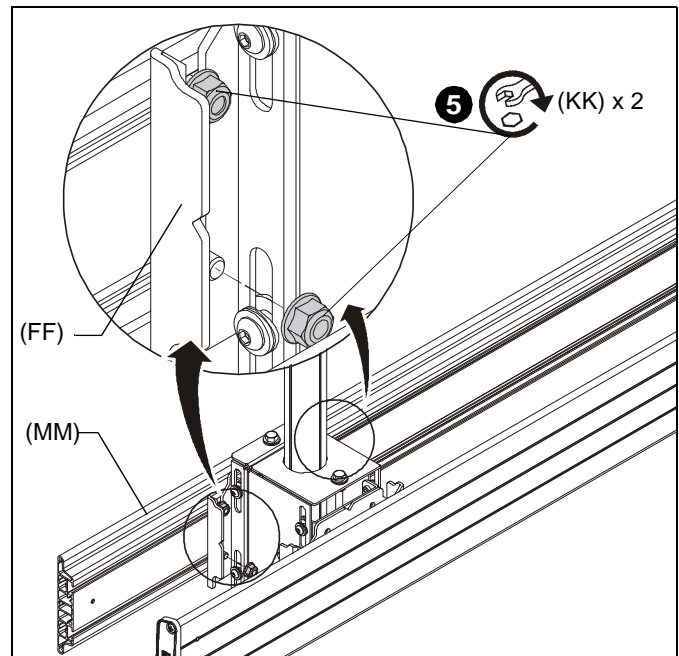

Figure 11
2. Partially fasten one 5/16" lock nut (KK) to each stud on upper T-slot studs.
3. Slide top T-slot studs (EE) with attached lock nuts (KK) down into top openings on add-on heads (FF). (See Figure 11)
4. Slide studs on lower T-slot studs (EE) into lower slots on add-on heads (FF) while bringing mounting rail against add-on heads.